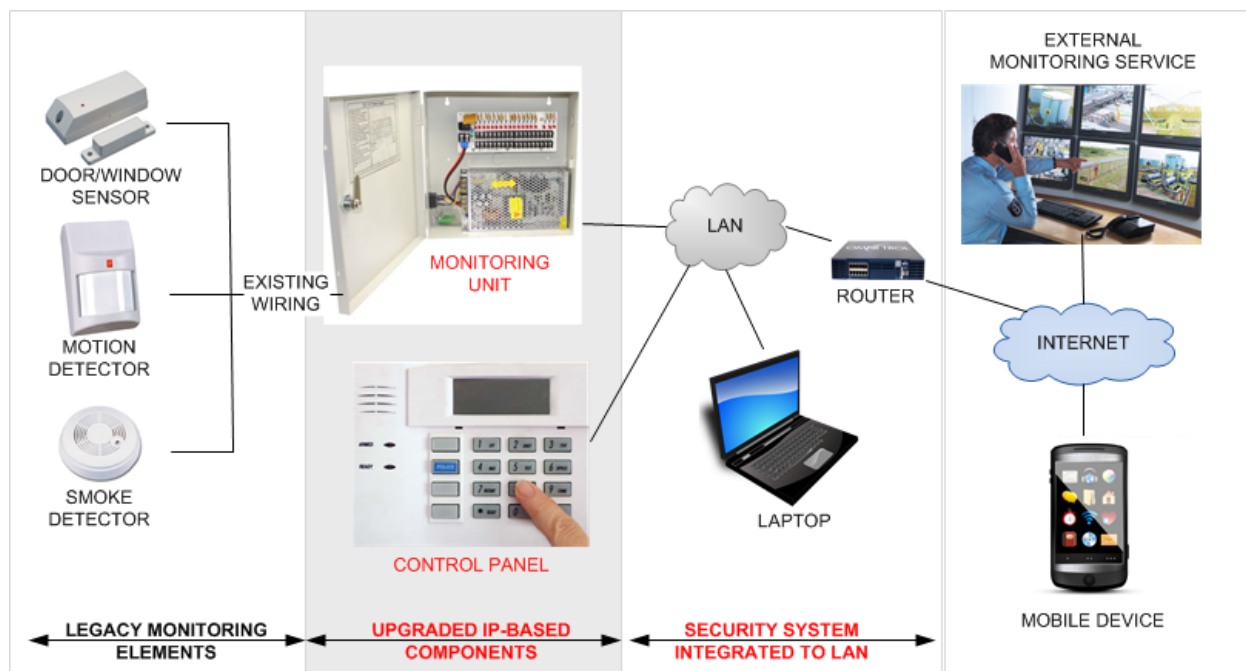

Figure 3: An example of Advanced upgrade: IP-based Monitoring
- 2) **Advanced upgrade:** in this scenario, the local monitoring unit and control panel are upgraded to an IP-based system while leveraging existing monitoring elements (see Figure 3). This option allows customers to enjoy a full complement of IP-based monitoring services since the monitoring unit and control panel can be access over the internet allowing a wider range of services.
panel are upgraded to an IP-based system; however, the new components continue to leverage the existing analog monitoring elements thus reducing installation cost. As shown in Figure 3, an IP-based monitoring unit is deployed and connected directly to the LAN; legacy monitoring elements already installed are simply connected to the new monitoring unit since the wiring is already in place. The new IP-based control unit is also directly connected to the LAN. This option allows customers to enjoy a full complement of IP-based monitoring services since the monitoring unit and control panel can be accessed over the internet allowing a wider range of services.